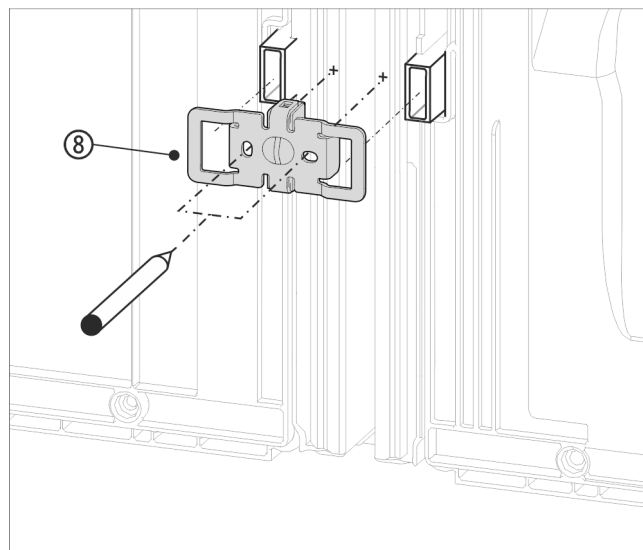

Fig. 16 Example illustration
- Slide the bracket *Fig. 16 (8)* with the slots over the retainer for the wall spacers.